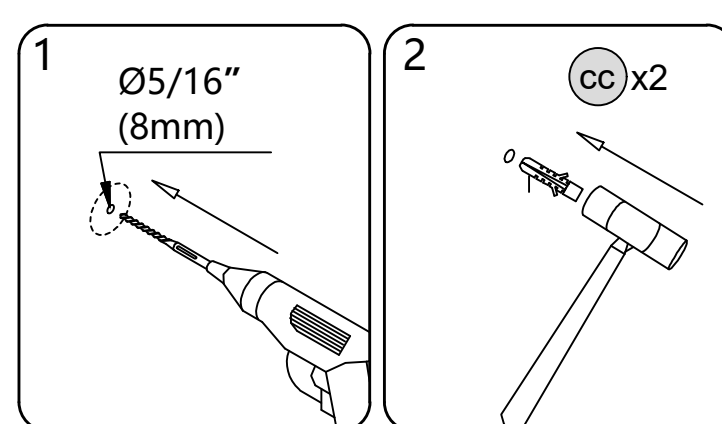

Fig 8
5. 1、 Drill holes at the marked hole locations for the **Guide Rail Bracket (H)** using a **Ø5/16" (8mm)** drill bit and insert the **Wall Anchor (cc)**. **(Fig 8)**